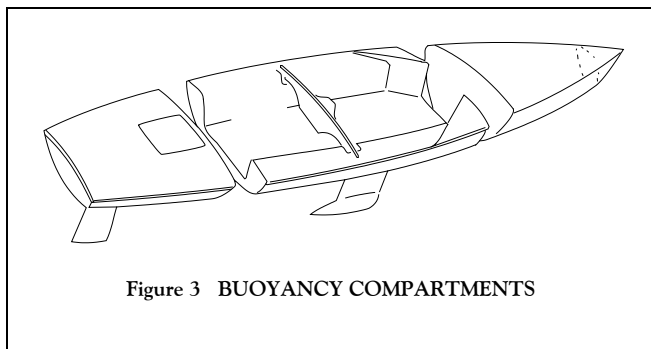

Figure 3 BUOYANCY COMPARTMENTS
**Safety** — Figure 3 shows how the Tempest design incorporates two watertight buoyancy compartments and—for boats without spinnaker launchers—a third that’s “substantially” watertight, as follows: